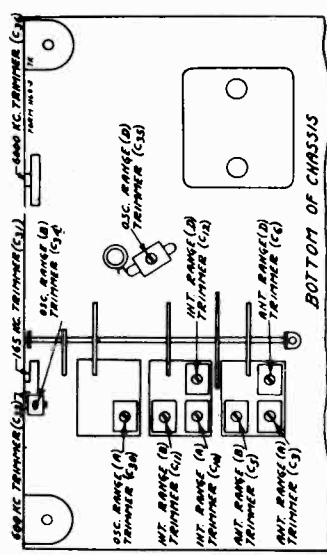

Fig. 3—Location of Trimmers
Adjust the oscillator Range A trimmer (C30) until maximum output is obtained. The location of this trimmer is shown in Fig. 3
- Turn the rotor slowly back and forth at the same time adjusting the 165 KC trimmer until the peak of greatest intensity is obtained. See Fig. 3 for location of this trimmer.
Adjust the oscillator Range B trimmer (C34) until maximum output is obtained. The location of this trimmer is shown in Fig. 3.
- Turn the rotor slowly back and forth at the same time adjusting the 600 KC trimmer until the peak of greatest intensity is obtained. See Fig. 3 for location of this trimmer.
Adjust the oscillator Range D trimmer (C35) until maximum output is obtained. See Fig. 3 for location of this trimmer.
- Turn the rotor slowly back and forth at the same time adjusting the 6000 KC trimmer until the peak of greatest intensity is obtained. See Fig. 3 for location of this trimmer.